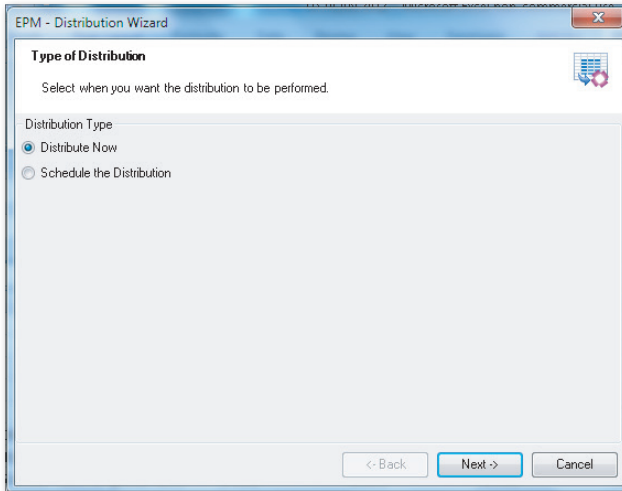

Figure 7.22 Offline Distribution Wizard—Part A
2. Select the type of distribution from the dialog screen shown in Figure 7.22. There are two options to distribute the template: Distribute Now and Schedule the Distribution. When the DISTRIBUTE NOW option is checked, the distribution is scheduled immediately. When the SCHEDULE THE DISTRIBUTION option is